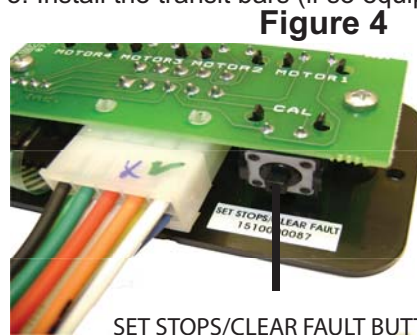
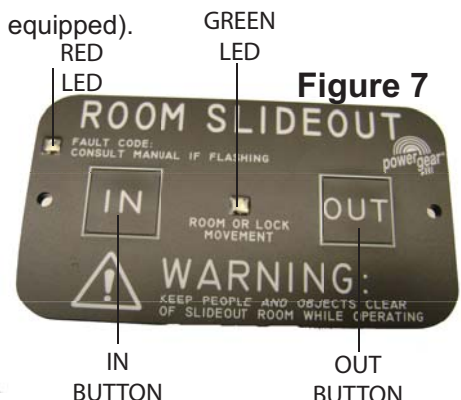

Figure 4
Figure 7
2. Remove the touchpad (Fig 7) from the wall.
3. Press and hold the "Set Stops/Clear Fault" button on the back of the wall touchpad for 5 seconds. (Figure 4). Both LED's will light while the button is held down. (Figure 7)
- The GREEN LED indicates system operation. (Figure 7)
- The RED LED indicates a fault or problem with the system. (Figure 7) Refer to Fault Diagnostics Mode in this manual for additional information.
4. Press and hold the OUT button (Figure 7). If equipped with room locks, the room locks will first retract prior to room movement. Reference the GREEN LED indications above to determine component movement.
2. Press and hold the IN button (Figure 7) If equipped with room locks, the room locks will automatically extend when the room is fully retracted. Reference the GREEN LED indications above to determine component movement.
The control has the ability to detect several faults. When a fault is detected, the room movement will stop and the RED LED (Figure 7) will flash a number of times corresponding to a specific fault code listed below.
- **MAJOR** faults must be cleared by pushing the 'Set Stop/Clear Fault' button located on the back of the wall touchpad (Figure 4). This is done to alert the end user that there is a major problem with the system and to prevent damage to the slideout room.
- To determine the fault, count the number of GREEN and RED LED flashes on the wall touchpad (Fig 7) The number of flashes corresponds to a fault code number.
1. Remove the touchpad (**Fig 7**) from the wall
2. Press and hold the "Set Stops/Clear Fault" button on the back of the wall touchpad for 5 seconds (**Figure 4**). Both LED's will light while the button is held down. (**Figure 7**)
- a. Press the IN button on the front of the wall touchpad (**Figure 7**) until the room is fully retracted